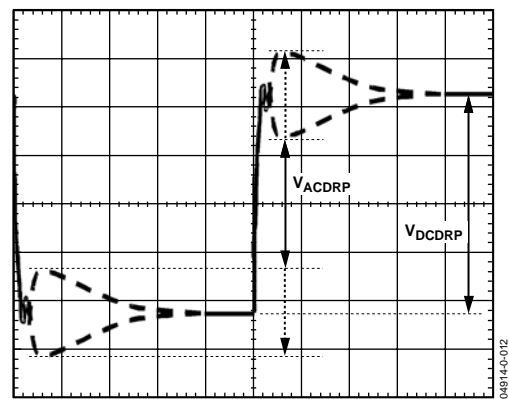

Figure 12. AC Loadline Waveform
14. Measure the output waveform (you might have to use dc offset on scope to see the waveform). Try to use a vertical scale of 100 mV/div or finer. This waveform should look similar to Figure 12.